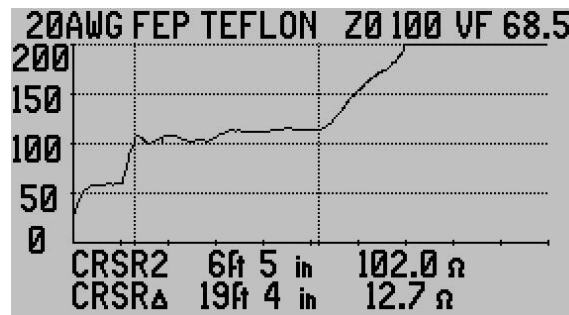
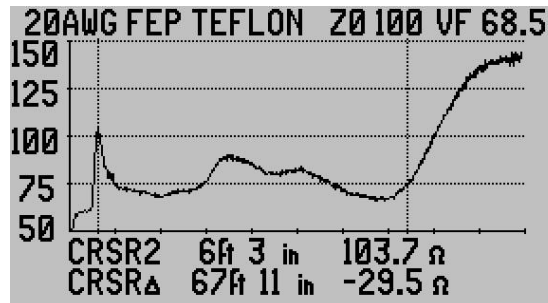

Figure 3-44
Figure 3-45
Figure 3-44 is an example of impedance (Z) variations over the length of two single wires in the harness. Cursor 2 marks the end of the test leads (50 Ohm coax with a short twisted pair to connectors lead at the end). Between Cursors 1 and 2, 19ft 4 in (5.9m) are the two single wires being measured as a pair with an open at the far end. At about 9 feet the impedance rises for the remainder of the run. This could indicate either the wires separated in the same bundle and never came close over the last 10ft (3m), or that section of the harness contains less total wires.
Figures 3-45 and 3-46 are examples of more wide variations in the two single wire's impedance. The same test lead is marked (CRSR2) as used in Figure 3-44 and the far end of the single wires is open as marked by Cursor 1. These are also good examples of measuring two single wires in vehicles. The harnesses in vehicles tend to be looser and cause wider variations in the impedance.